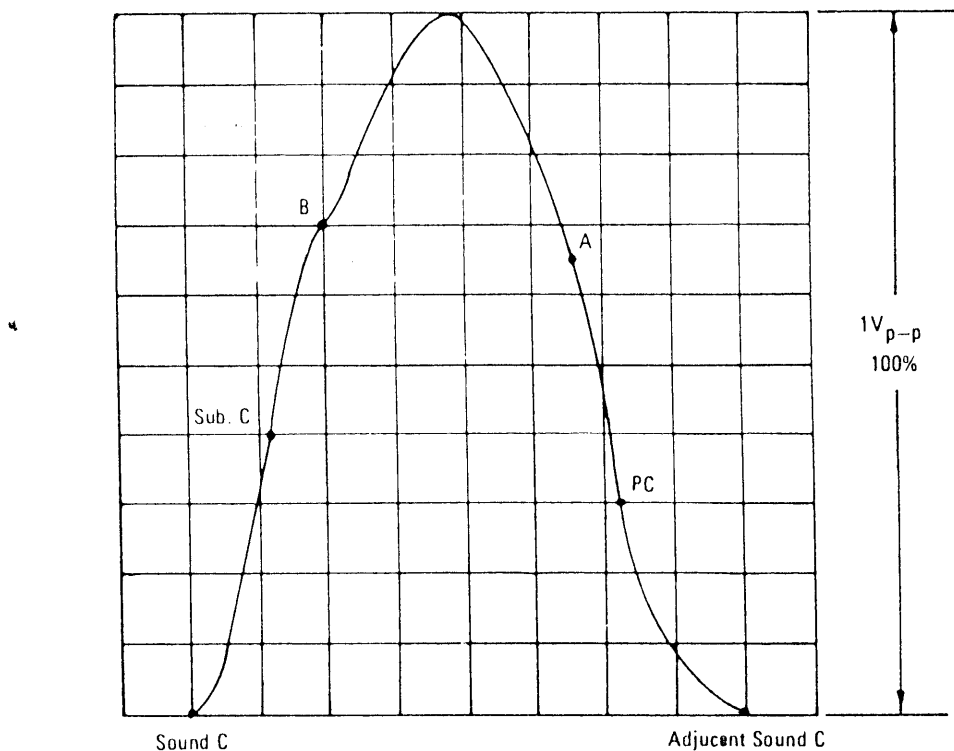

Fig. 3
5. Adjust core of T101 and tuner converter coil to obtain the waveform as in Fig. 3 and Table 1.